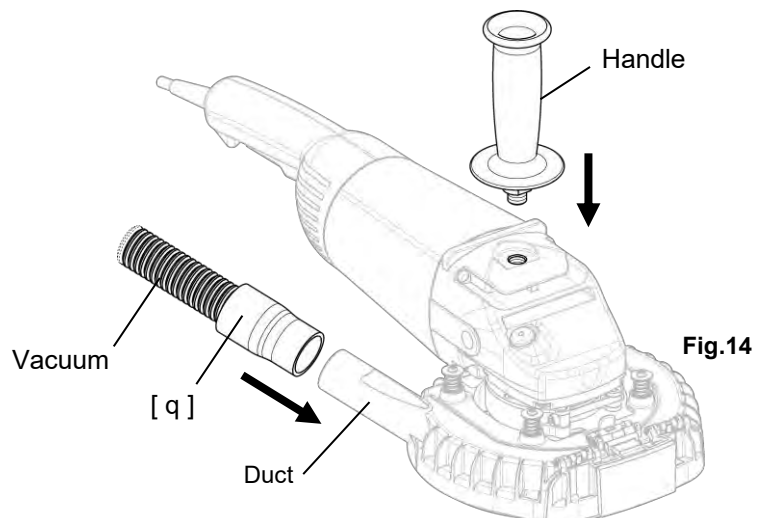

Fig.14
13. Connect the Vacuum Hose to the Duct of the [a] Main Body using [q] Hose Connector. (Fig.14)